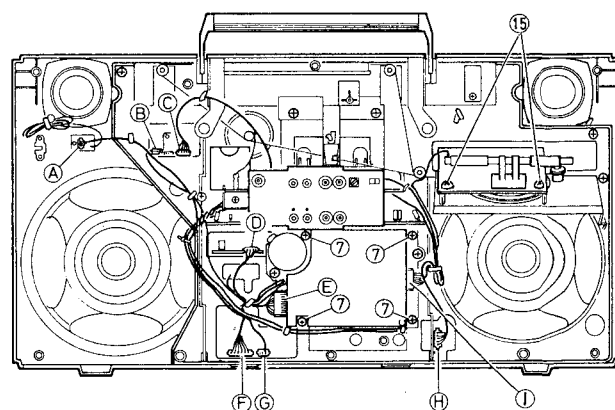

Fig. 8
**C. Mechanical unit (Fig. 8)**
1. Remove 4 screws (7) – SBSF3010V.
2. Remove a wire connector (1).
**E. Other parts (Fig. 8, 9)**
1. Tweeters = remove 4 screws (9) – SBSF3008Z.
2. Woofers = remove 8 screws (10) – SBSF4010Z.
3. Connector P.W. boards and power switch P.W. board = remove 7 screws (11) – SBSF3010Z.
4. MMS jack and phones P.W. boards = remove 4 screws (12) – SBSF3008Z.
5. Mechanical operation button P.W. board = remove 2 screws (13) – SBSF2616Z.
6. Pre-amp. and main amp. P.W. board = remove 2 screws (14) – SBSF3012V.
7. Tuner P.W. board = remove 2 screws (15) – SBSF3012V.